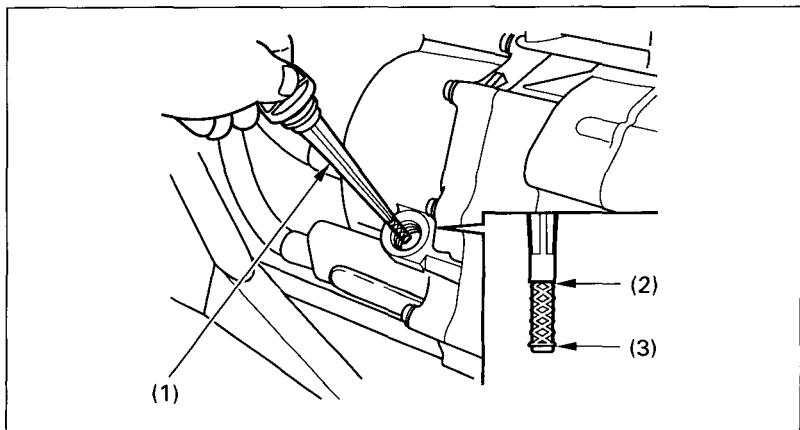

Fig. 4-10 (1) Oil filler cap/dipstick
4. After a few minutes, remove the oil filler cap/dipstick (Fig. 4-10) from the front crankcase cover and wipe it clean.
5. Insert the dipstick without screwing it in, then remove the dipstick and check the oil level. The oil level should be between the upper level mark (2) and the lower level mark (3) on the dipstick.
1. With the Sportrax on level ground, remove the oil filler cap/dipstick from the right crankcase cover (Fig. 4-10).